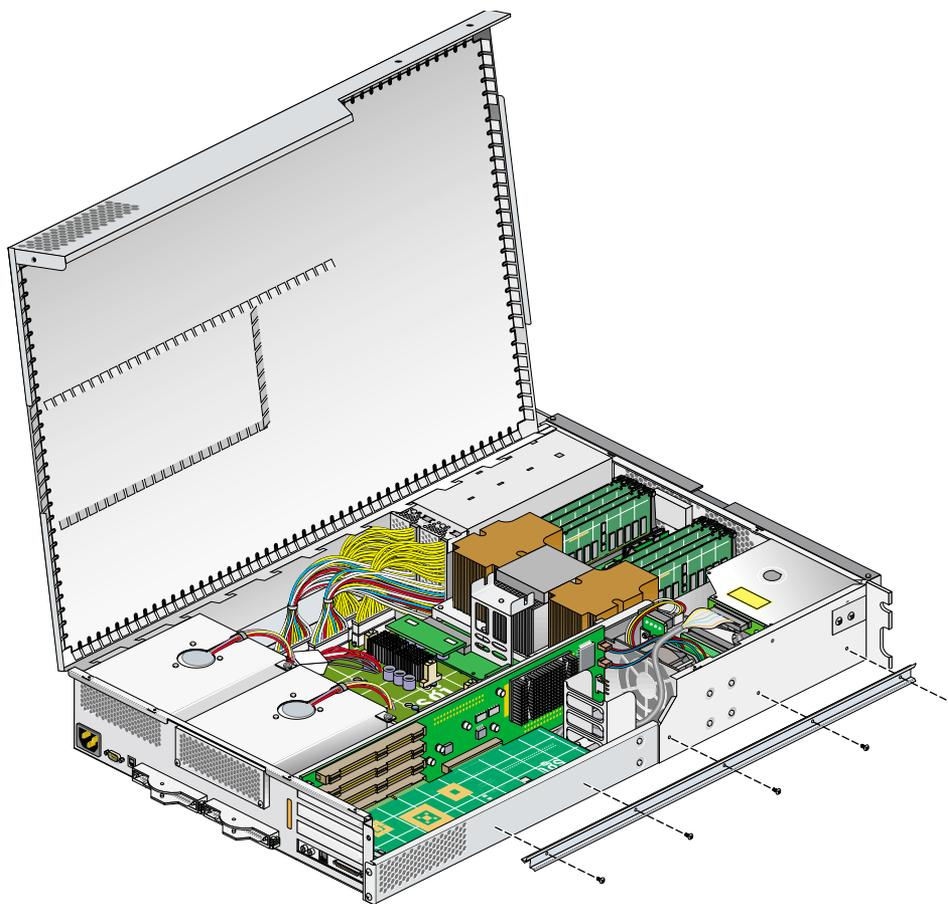

Figure 7-11 Removing the Chassis Rail
7. If you are removing a card from one of the two lowermost card slots and your system uses optional slide rails, remove the chassis rail, by unscrewing the five Phillips screws as shown in Figure 7-11. (If you are not removing a PCI/PCI-X card from one of the two lowermost card slots, proceed to step 9.)